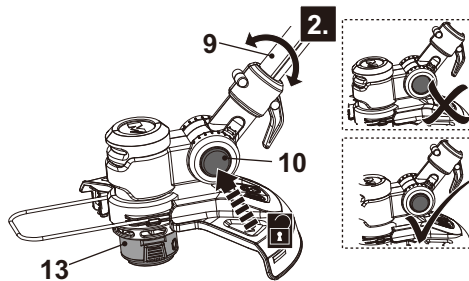

Fig. 10
1. Press the unlock button (10) and hold it in position.
2. Move the lower pole (9) slightly up or downward (Fig. 10).
3. Release the unlock button (10) and keep moving the lower pole (9) until it locks in place.